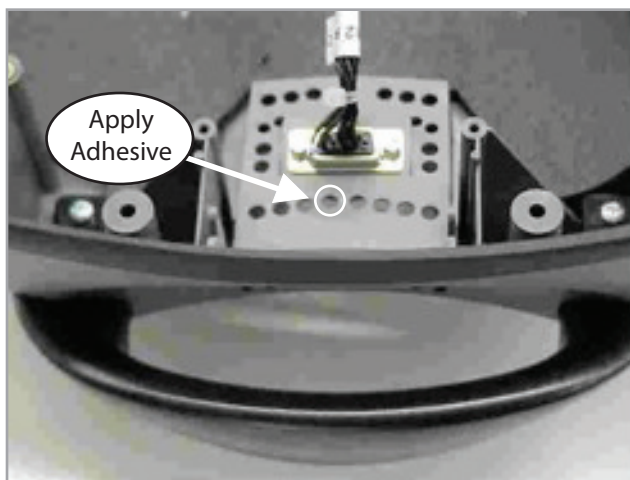

Figure 53: Bonding the Buzzer to the case.
4. To install a new buzzer, apply a ring of cyanoacrylate adhesive (Super Glue) around the inlet hole as shown in Figure 53.